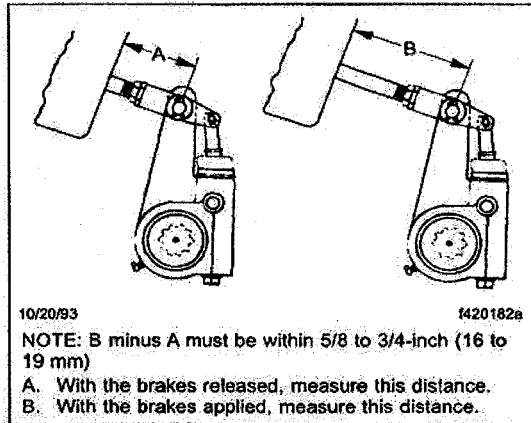

Fig. 11.17, Brake Stroke Check, Meritor Automatic Slack Adjuster
With the brakes fully released, measure the distance from the bottom of the brake chamber to the center of the large clevis pin. See Fig. 11.17, Ref. A.
Use a pry bar to move the slack adjuster, applying the brakes. Again, measure the distance from the bottom of the brake chamber to the center of the large clevis pin. See Fig. 11.17, Ref. B.
- With the brakes fully released, measure the distance from the bottom of the brake chamber to the center of the large clevis pin. See Fig. 11.17, Ref. A.
chamber to the center of the large clevis pin. See Fig. 11.17, Ref. B.